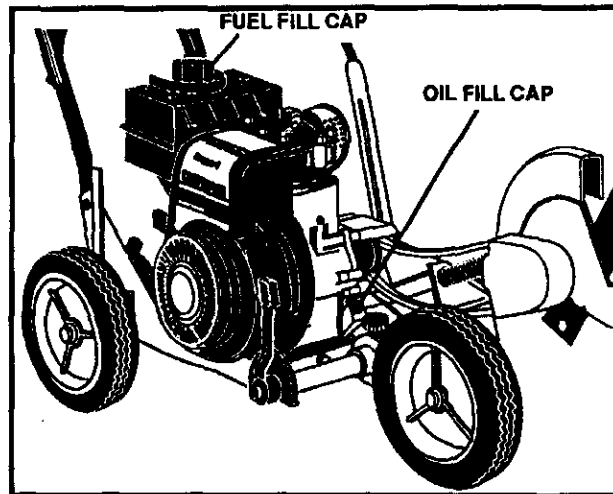

FIG. 9
- Remove the oil fill cap (Fig. 9).
Fill the fuel tank (See Fig. 9) with clean, fresh, unleaded grade automotive gasoline. Be sure that the container you pour the gasoline from is clean and free from dust or other foreign particles. Never use gasoline that may be stale from long periods of storage in the container.
- Remove the oil fill cap (see Fig. 9).